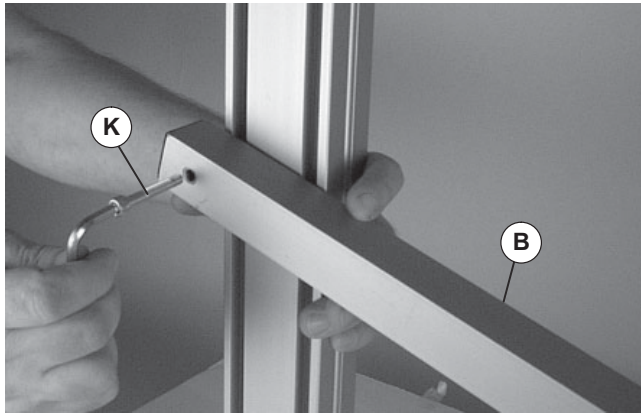
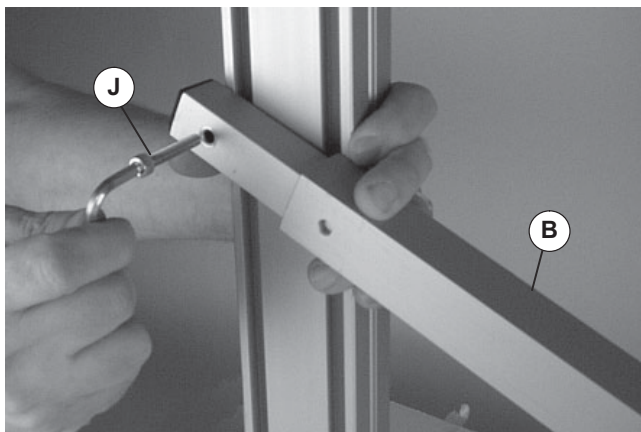

Figure 13
Figure 14
3. Loosely attach adjustable bar (Figure 13, item B) or (Figure 14, item B) to 90° bracket or aluminum stand T-slot as required.
- Attach outer tube end with screw (Figure 13, item K)
- Attach inner channel end with screw (Figure 14, item J)